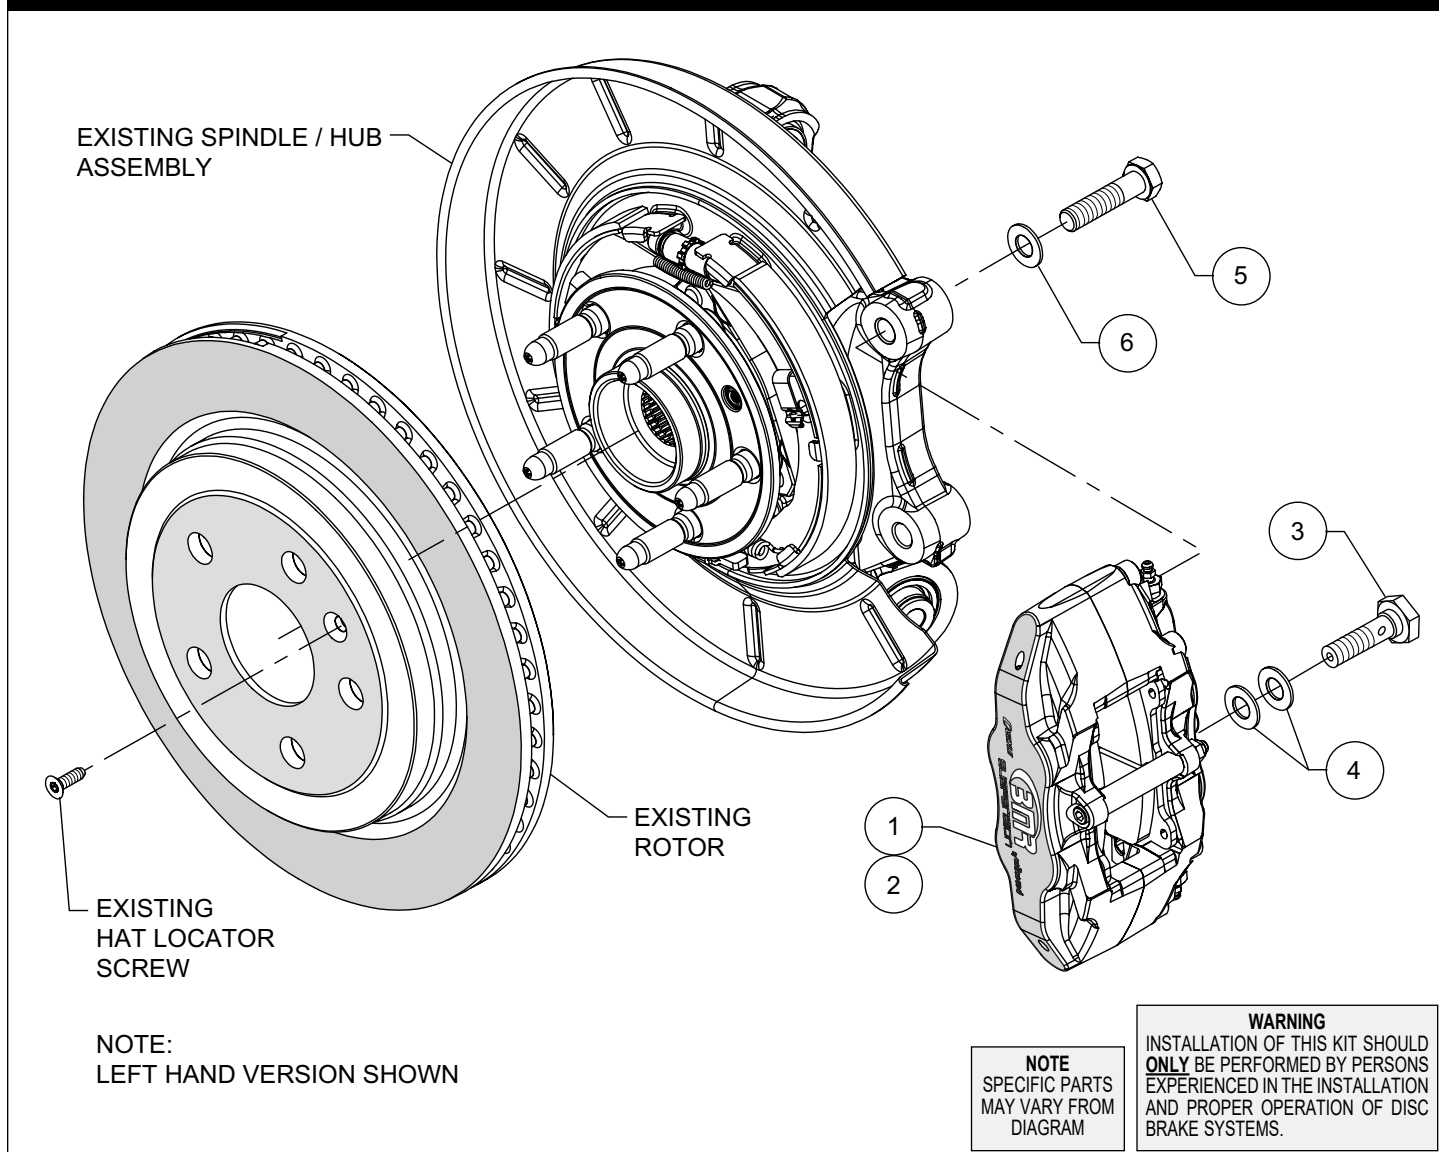

Figure 1. Typical Installation Configuration
NOTE: Numbers in parenthesis refer to the parts list and Figure 1 on the preceding pages.
- Install the caliper (1) in the exact position as the original caliper, Photo 1. Secure the caliper to the OEM mounting tabs using bolts (5) and washers (6) as shown in Figure 1. Apply *Loctite*® 271 on the bolt threads and torque to 60 ft-lbs.
•**NOTE:** The caliper in this brake kit utilizes a 10mm x 1.0 thread inlet (same as OEM caliper). OEM rubber hose may be connected to the Wilwood caliper using new crush washers (4) and banjo bolt (3). **Carefully route hoses to prevent contact with moving suspension, brake or wheel components.** **NOTE:** It is the installer's responsibility to properly route and ensure adequate clearance and retention for brake hose components.
•Do not lubricate banjo bolt (5). Install two new crush washers (4) and new banjo bolt (3) as shown in Figure 1. Torque banjo bolt to 96 - 120 **in-lbs.** (do not exceed 144 **in-lbs.**). Torque to lighter specification and check for leakage, increasing torque only to stop leakage without exceeding maximum specification. Replace crush washers and banjo bolt whenever re-assembly is required.